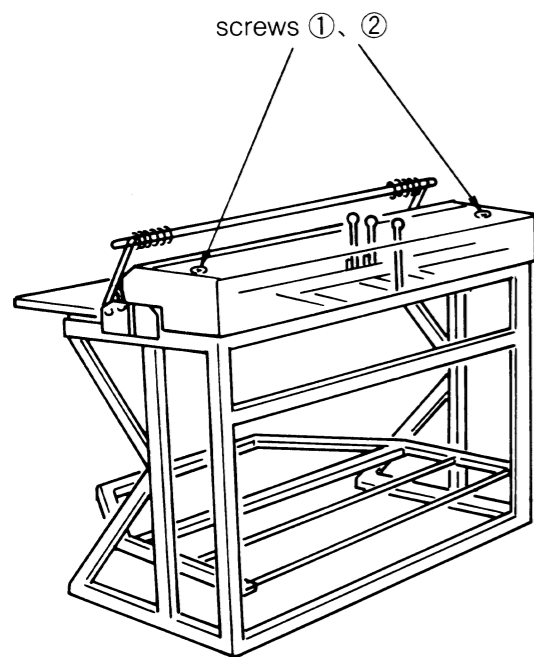

fig 1
- 7 Install the cover (cf.fig 1)